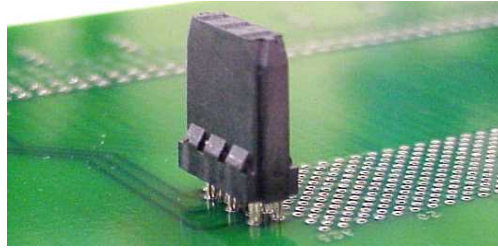

Figure 2 - Place Power Module on Board
- Step 4 Place circuit board on pallet, ensuring holes of PC board are in position. Place power module onto backplane (see Figure 2). Ensure module is in correct orientation per documentation.